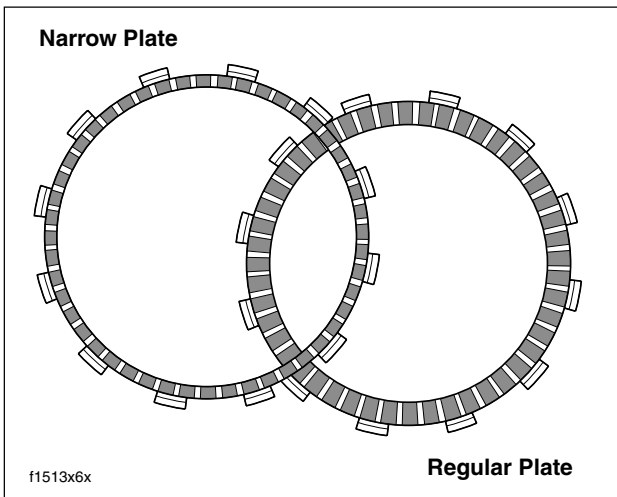

Figure 6-12. Friction Plates
7. Install the narrow friction plate on the clutch hub engaging tabs on plate with slots in clutch shell. See Figure 6-12.